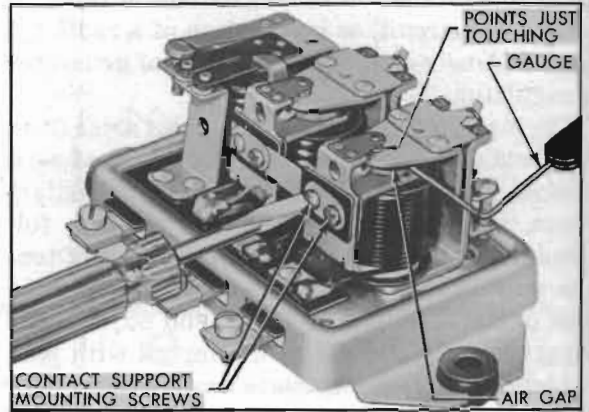

Figure 10-29—Adjustment of Voltage Regulator Air Gap
2. Adjust air gap on each unit, if necessary, by loosening contact support mounting screws and raising or lowering support as required. Be sure points are lined up when tightening screws, then recheck gap after adjustment. See figure 10-29.